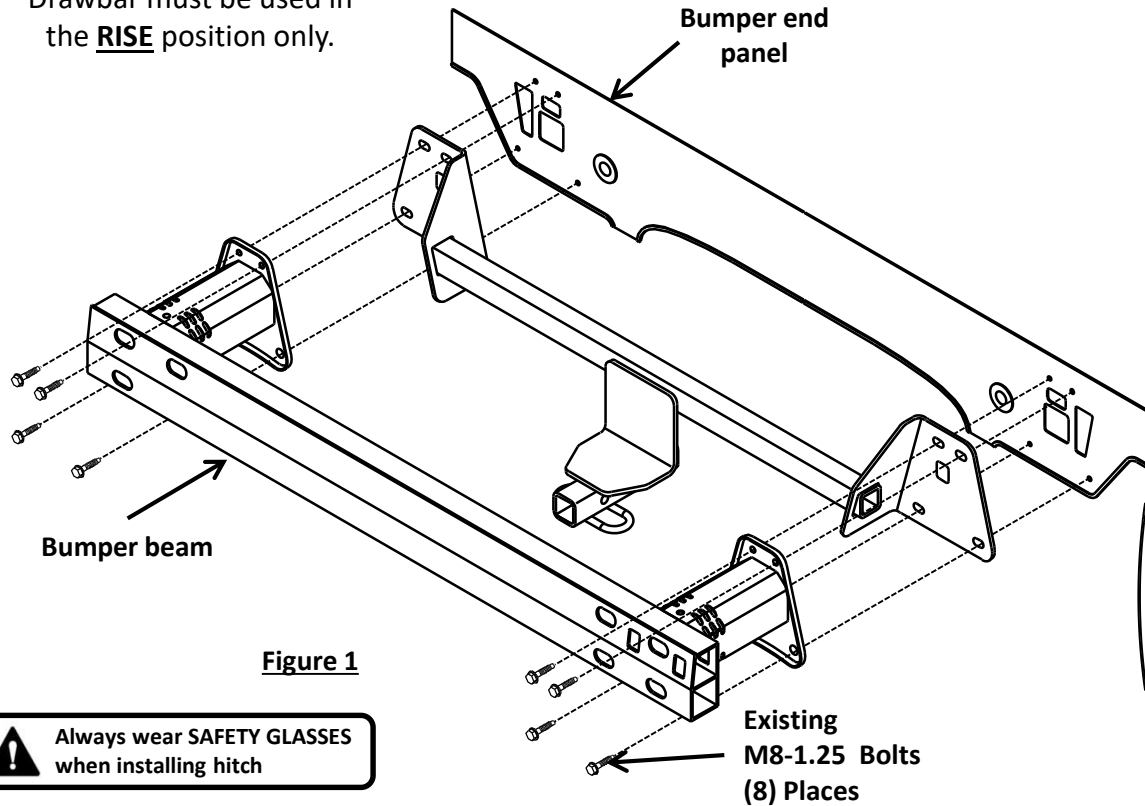

Figure 1
3. **Remove bumper beam** – using a 12mm socket, remove (8) M8 bolts, (4) per side, attaching bumper beam to end panel. See Figure 1.
5. **Hitch installation** – raise hitch and bumper beam into position aligning holes with weldnuts in the end panel. Sandwich the hitch between bumper beam and end panel. See Figure 1.
6. **Reinstall fasteners** - Loosely reinstall the existing (8) M8 bolts into weldnuts in end panel, (4) per side.
8. **Reinstall lower fascia and wiring clips** – reinstall the lower fascia aligning tabs in lower fascia with upper fascia. Reinstall the (5) wiring clips into fascia tabs above the bumper beam. Reinstall the (2) screws at outer edge of fascia.
1. **Remove (3) plastic underbody panels** – using a flat head screw driver, remove (14) plastic push-type rivets and (3) threaded panel fasteners from bottom panels.